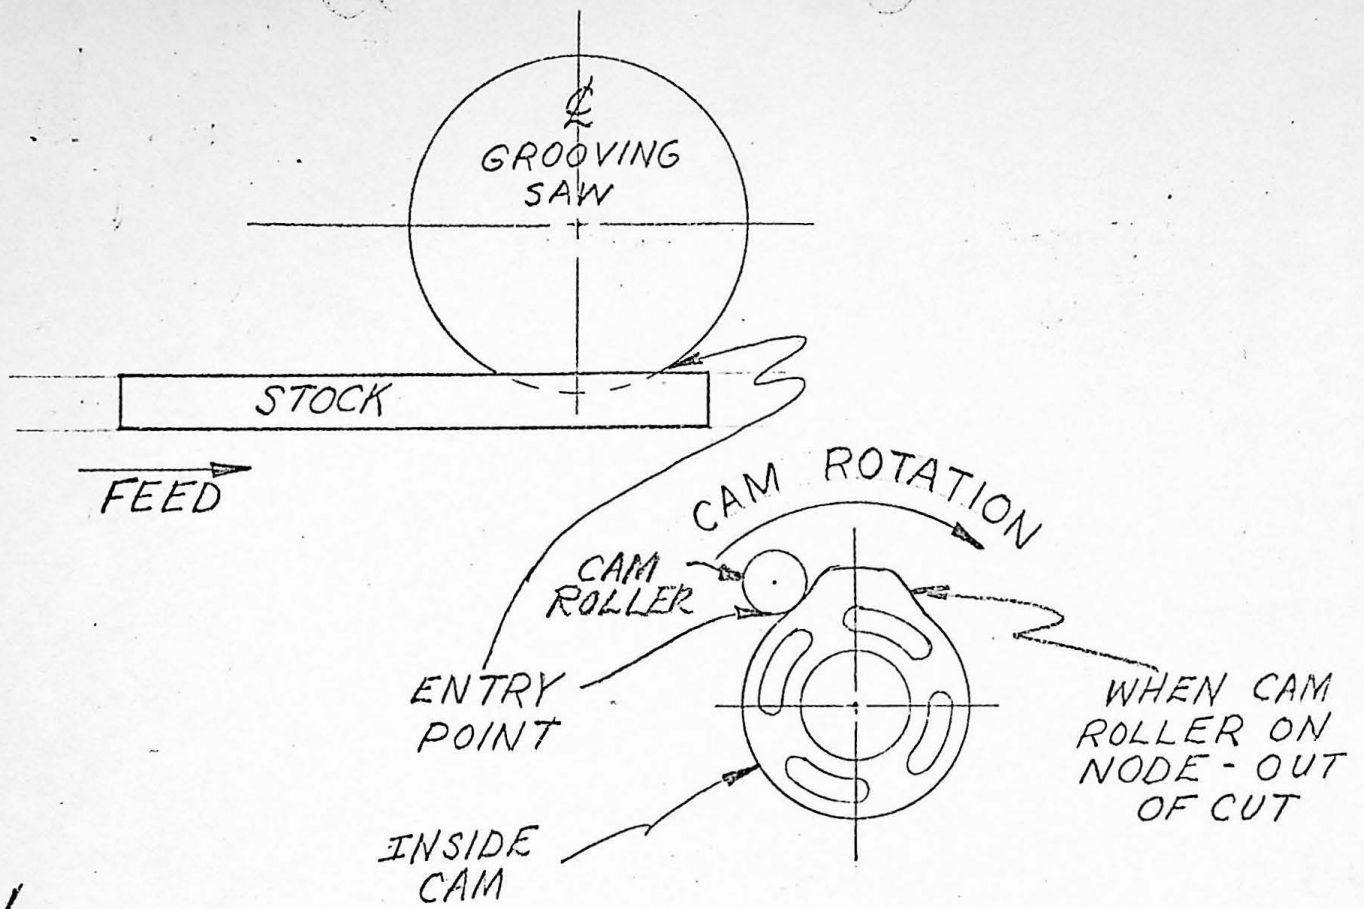

Fig. 1
- 4. Lower the rotating cutterheads to the specified depth (using dado scale) at the desired entry position in the stock and set the inside cam so that the cam roller is entering the cut. (See Fig.1) The set screw on the graduated cam ring is loosened and the ring rotated until the zero point is opposite the node on the inside cam.